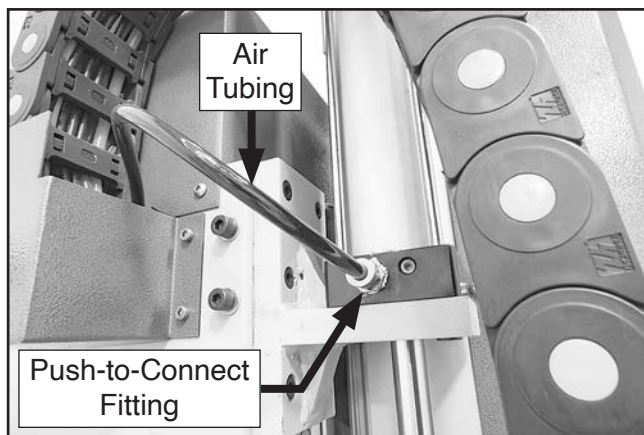

Figure 51. Air tubing connected.
25. Insert end of air tubing exiting dust cover into push-to-connect fitting on pneumatic cylinder (see **Figure 51**).